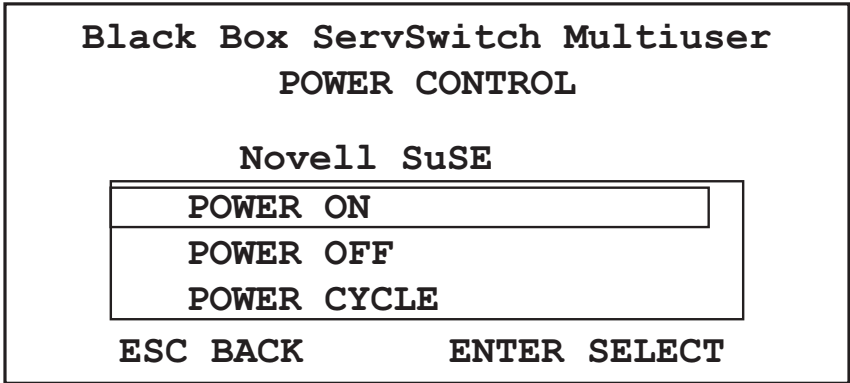

Figure 18-2. Power Control dialog box.
2. Press left Shift, F12. The Power Control dialog box appears, see Figure 18-2.